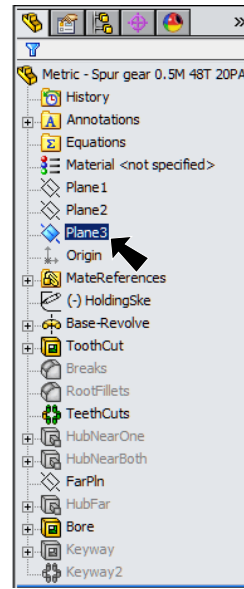

Fig. 4
Step 1. Click **Plane 3** in the Feature Manager to select Plane, **Fig. 4**.